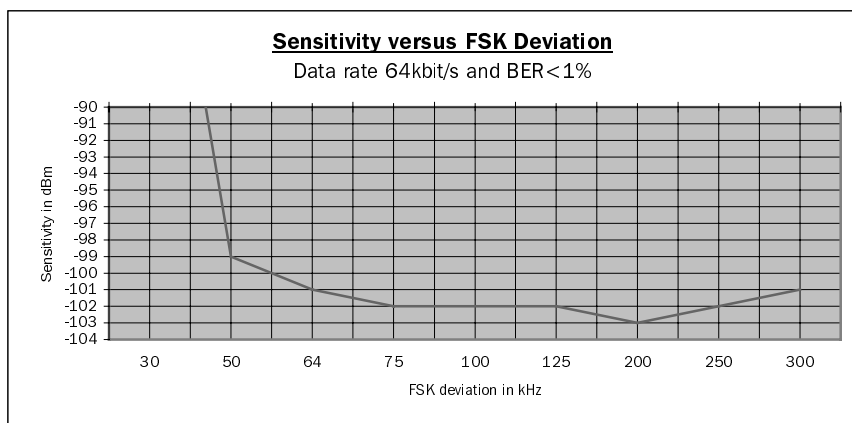

Fig26: Sensitivity versus Carrier frequency
- Sensitivity (*fig26*) versus FSK deviation @ 64kbit/s with a BER<1%